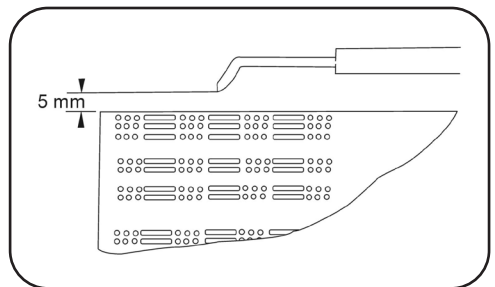

Figure 3: Electrode position.
- Check the starting electrode position (fig. 3 →).